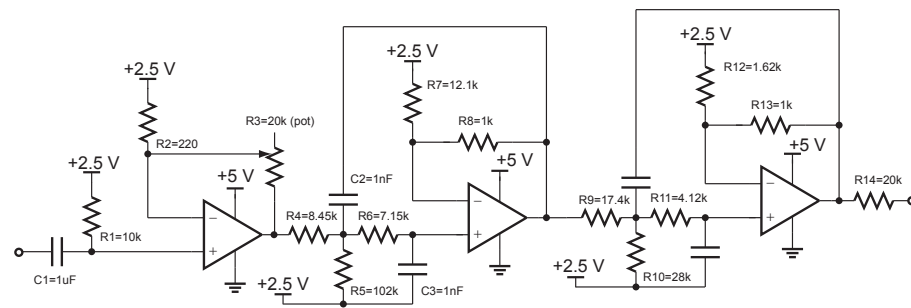

Figure 9: Schematic of the active low-pass filter.
In this part of the lab, we will implement an active low pass filter (LPF) with an adjustable gain stage. In the final radar system, the LPF+Gain stage will be responsible for filtering out spurious signals that may disturb the received baseband radar signals. We will use the Texas Instrument OPA4228 quad Op-Amp for both the gain stage and the active LPF. A pinout diagram of OPA4228 is shown in Fig. 6.10.4. Fig. 9 shows the schematic of the circuit. Fig. ?? shows an example of the actual circuit on a breadboard.
1. Identify the gain stage in Fig. 9. What is the expression of its gain? Notice the +2.5 V bias does not affect this result, rather it simply shifts the bias of the overall amplifier since a single 5 V supply (battery) is used vs a dual-rail (both positive and negative) supply.
1. Identify the active LPF portion of the circuit in Fig. 9. The overall filter consists of 2 low pass filters. What is the order of the overall filter and how is it determined from the schematic?
3. To measure just the filter response, disconnect R4 and R14 from the circuit (Fig. 9). Input a 3 Vpp signal in place of R4 and measure the output in place of R14.
4. To measure just the filter response, disconnect R4 and R14 from the circuit (Fig. 9). Input a 3 Vpp signal in place of R4 and measure the output in place of R14. Tabulate and plot the frequency response from 100 Hz to 50 kHz. What is the cutoff frequency of the filter?